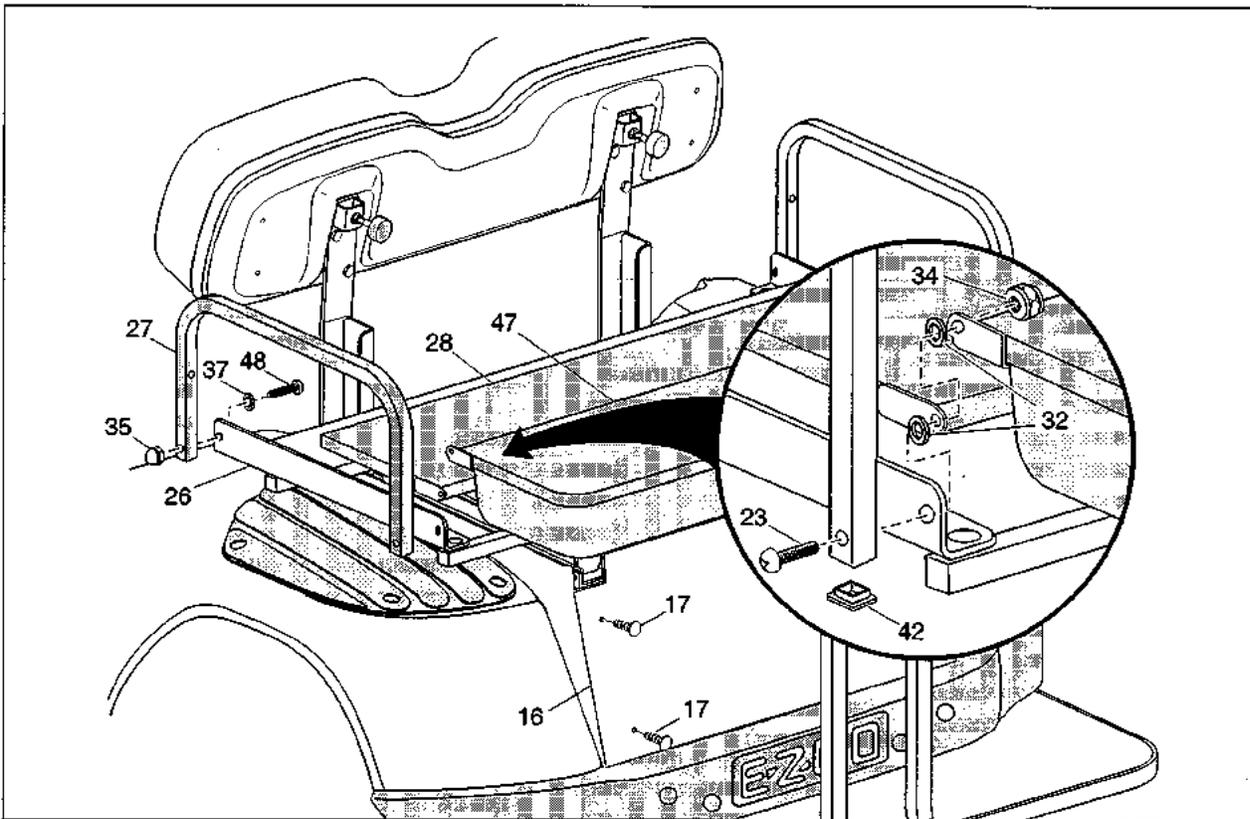

Fig. 7
### H. INSTALLING HANDRAIL (Refer to Fig. 7)
### I. INSTALLING LOAD BED AND SEAT BOTTOM (Refer to Fig. 7)
1. Place the valance panel (item 16) as shown in Fig. 7 with the sides inside the bagwell.
2. Secure the valance panel to the vertical support brackets using two rivets (item 17) in each bracket.